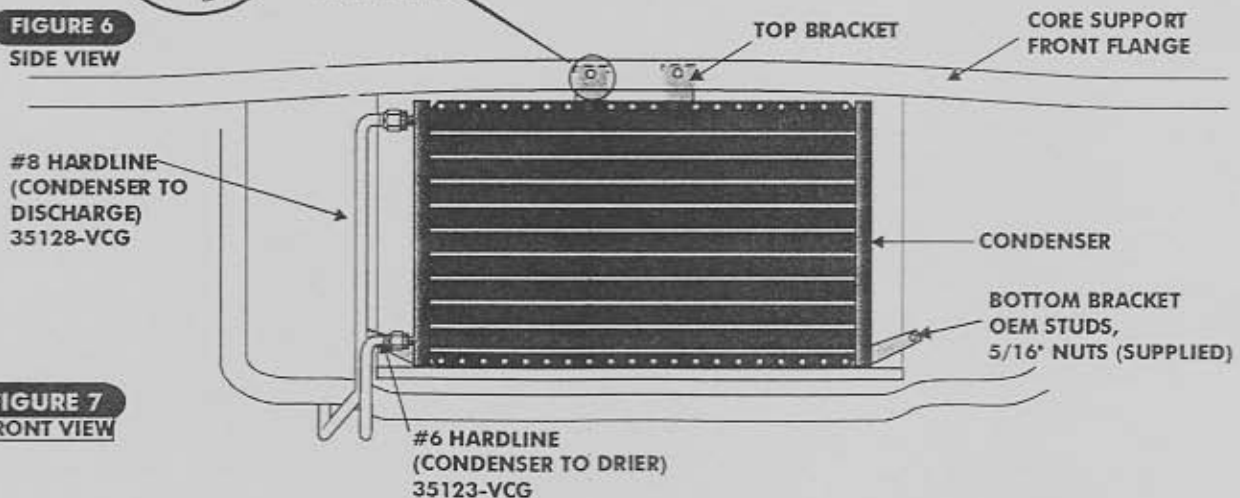

FIGURE 7
- ATTACH CONDENSER TO THE FRONT SIDE OF RADIATOR SUPPORT BY USING THE PROTRUDING RADIATOR ATTACHING BOLTS AS STUDS AND FASTEN WITH THE TWO (2) 5/16" NUTS (SUPPLIED). (SEE FIGURE 7, PAGE 5). IF BOLTS ARE NOT LONG ENOUGH, REPLACE WITH BOLTS AT LEAST 1" LONG.
- LOCATE THE #8 (CONDENSER TO DISCHARGE SIDE OF COMPRESSOR) HARDLINE. (SEE FIGURE 20, PAGE 12) LUBRICATE THE O-RING (SEE FIGURE 4, PG. 5) AND ATTACH TO THE TOP CONDENSER FITTING. (SEE FIGURE 7.) ATTACH HARDLINE TO THE FRAME USING AN ADEL CLAMP AND SHEET METAL SCREW IN THE POSITION SHOWN IN FIGURE 20, PAGE 12.
- LOCATE #6 (CONDENSER TO DRIER) HARDLINE AND TWO (2) #6 O-RINGS. LUBRICATE AND INSTALL O-RINGS (SEE FIGURE 4, PAGE 5) ON THE LINE AND ATTACH TO THE LOWER CONDENSER FITTING AND INLET FITTING ON THE DRIER. SEE FIGURE 7, THIS PAGE, AND FIGURE 20, PAGE 12. TIGHTEN USING TWO WRENCHES. (SEE FIGURE 5, ABOVE.)